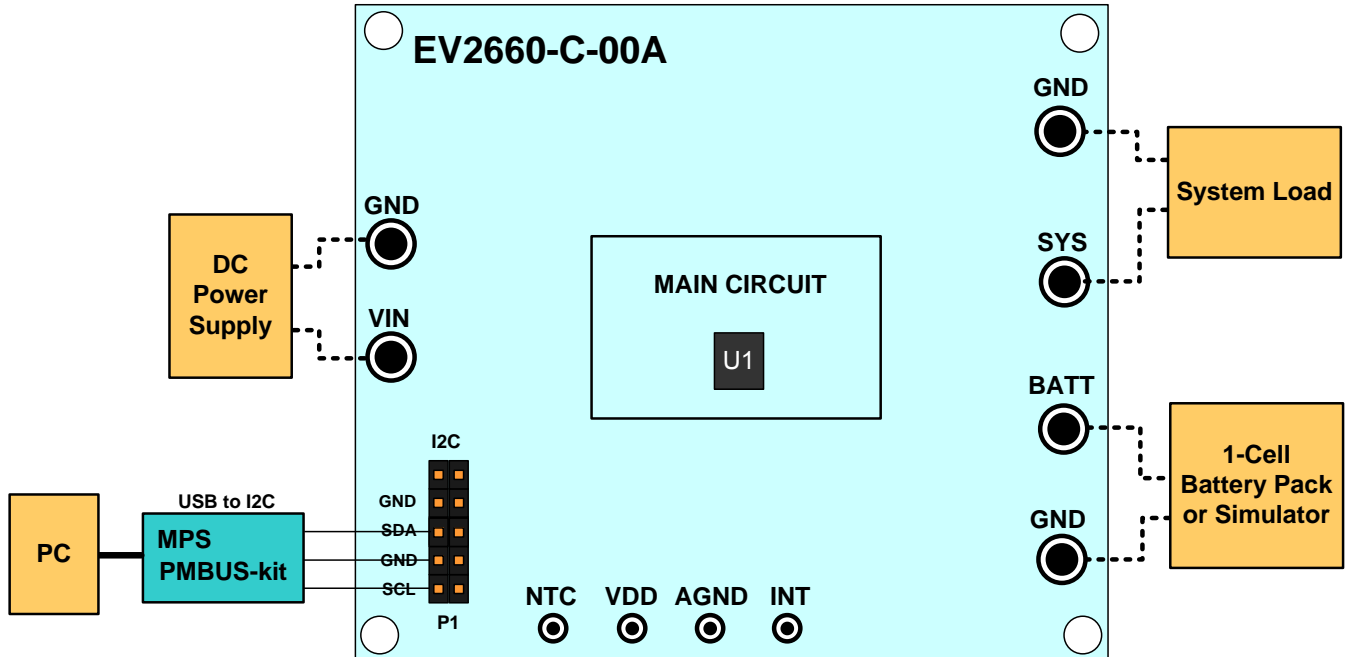

Figure 5 Test Setup for MP2660
4) Original Test Setup for MP2660 in Figure 5.